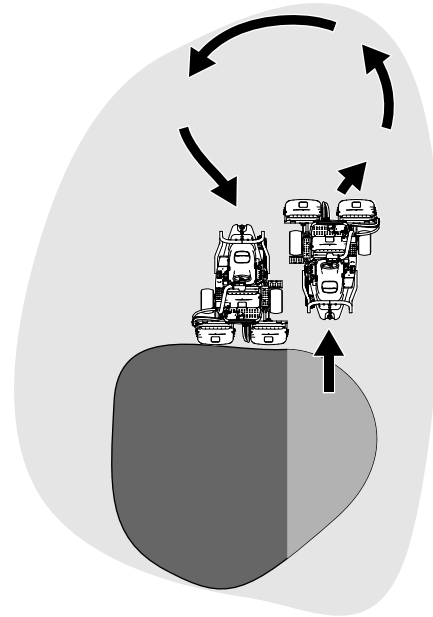

Figure 28
6. To cut down on operating time and to ease the lineup for the next pass, momentarily turn the machine in the opposite direction, then turn it in the direction of the uncut portion. This movement is a tear-shaped turn (Figure 28), which quickly lines the machine up for your next pass.